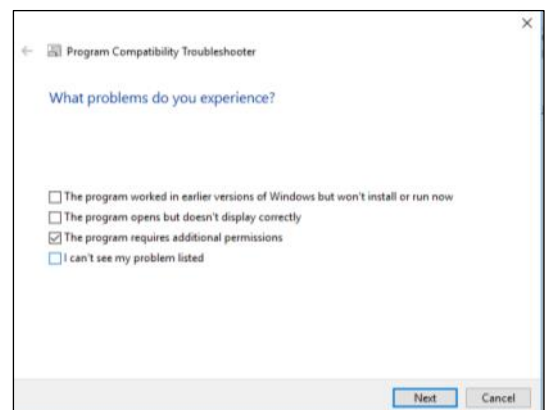

Fig. 2.11
- Select **The program requires additional permissions** and click on **Next** (Fig. 2.11).